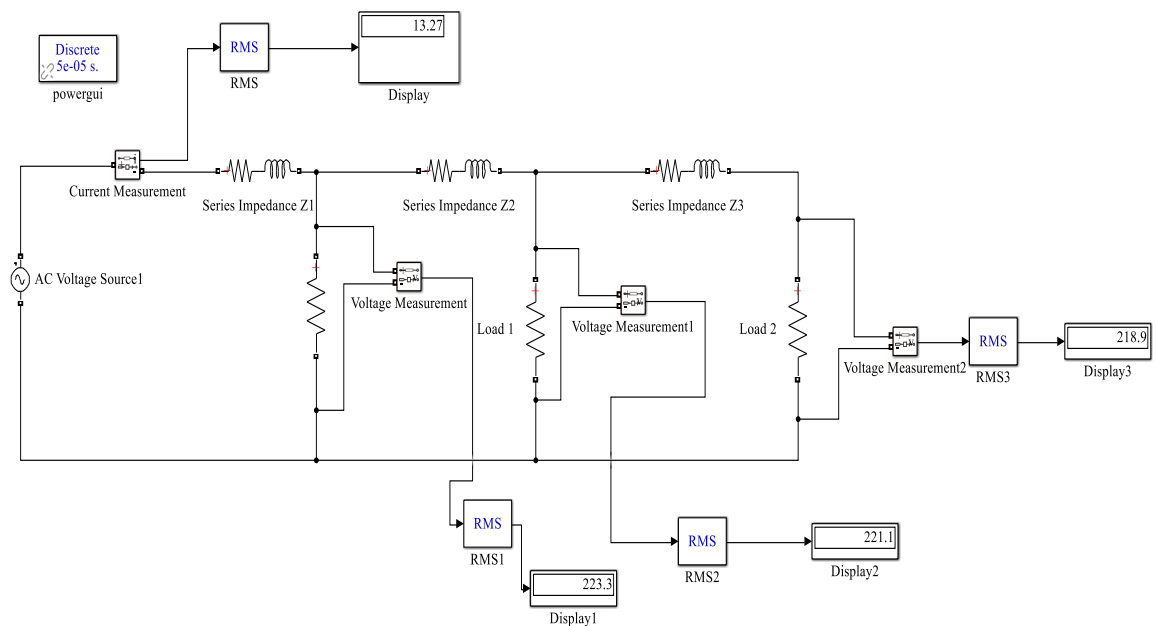

Fig.1 Radial Distribution system
1. Build the SIMULINK model as shown in the figure1.